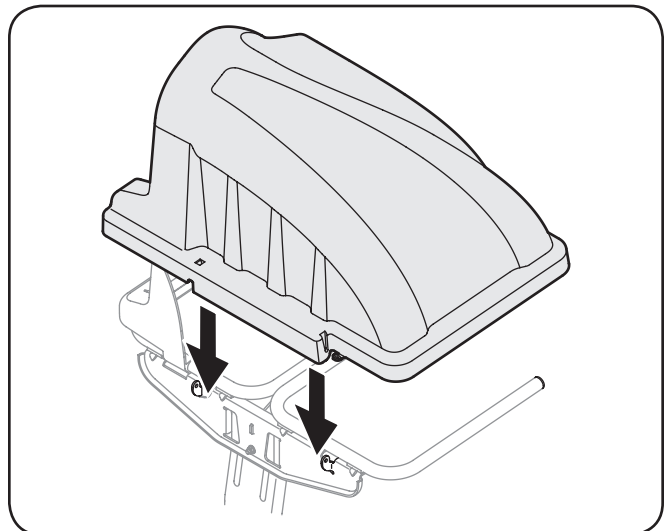

Figure 4-14
5. Install the bagger cover onto the bag support assembly, as seen in Fig. 4-14. The plastic cover goes inside of the two mounting tabs.